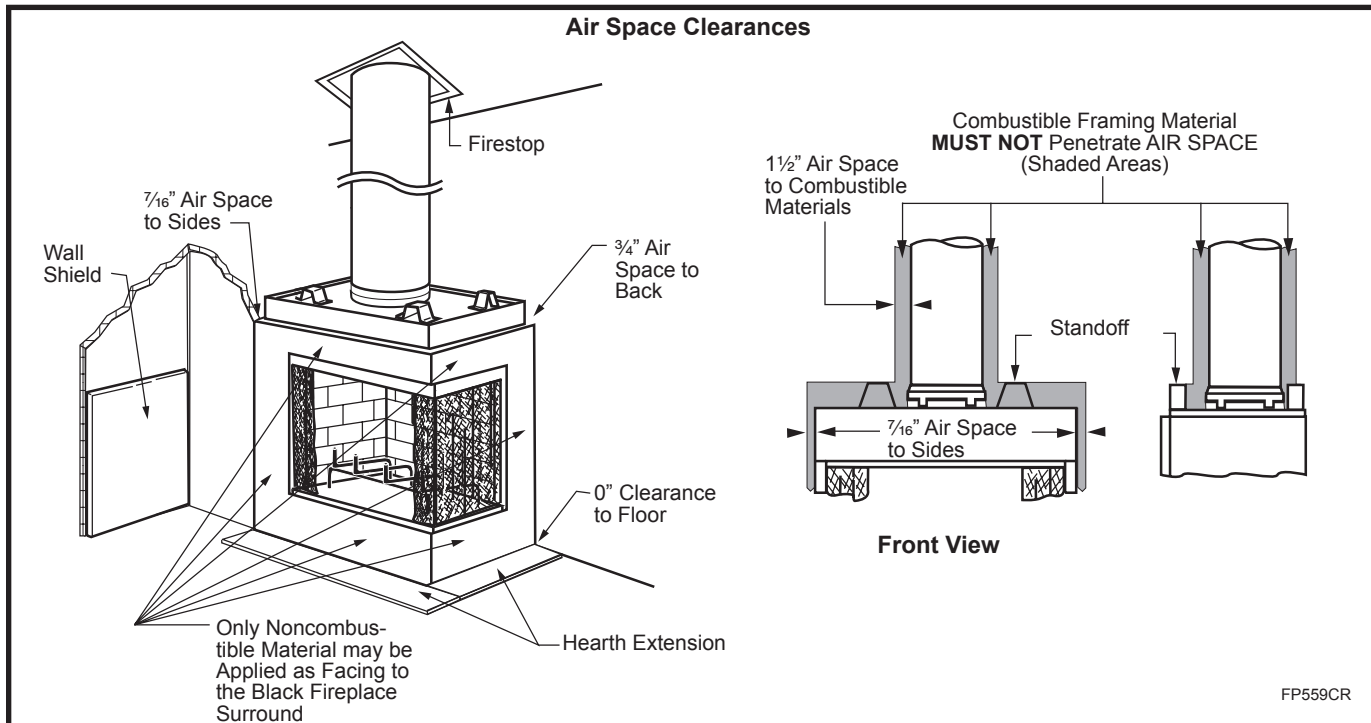

Fig. 17 Minimum clearances to combustibles.
There must be an air space (1½" (38mm) with SK8 ) between outermost portion of chimney sections and any adjacent combustible surfaces. (Fig. 17) (Combustible surfaces include burnable materials such as: ceiling members, joists, flooring, combustible insulation and roof structures.)
**CAUTION:** All joints between the finished wall and the fireplace surround (top/sides) must be sealed with noncombustible material to prevent cold air leakage into the room. Only noncombustible material may be applied to the facing of the fireplace surround. (Black painted area) (Fig. 17)
All joints (top, bottom and sides), where the wall or decorative facing material meets the fireplace surround must be completely sealed with a noncombustible material. (Fig. 17, 18, 20)
All walls constructed closer than 16" (406mm) from the fireplace opening must be protected with CFM Corporation Wall Shield Model SP40 or a built-up wall shield described in Figure 17.
The built-up wall shield design described in Figure 17 is an alternate method for adding protection to side walls and can be used in place of the SP40 with the same wall clearances specified for the SP40.